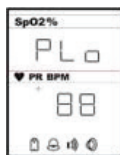

Fig. 12
Press the up or down button to adjust the number. Then press the right button for setting the low PR alarm (**refer to Fig. 12**). The low alarm (PR) setting range is: 30-253(bpm).